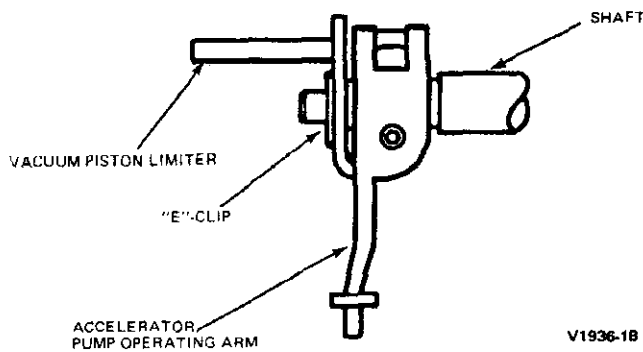

FIG. 38 Assembling Components to Vacuum Piston Limiter Lever Shaft
1. Install the accelerator pump operating shaft into the bore in the upper body casting. Assemble the vacuum piston limiter lever and accelerator pump operating arm to the end of the shaft and secure with a clip (Fig. 38).